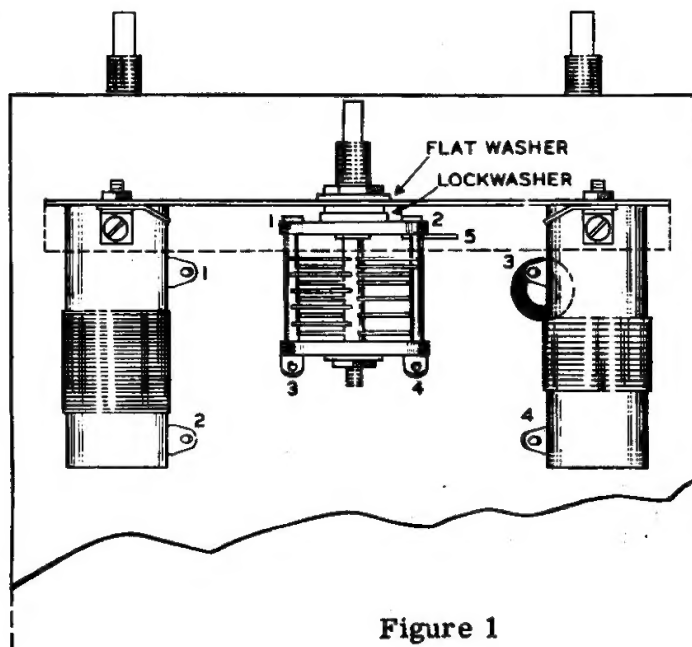

Figure 1
- X (✓) Mount the differential tuning capacitor to the front plate of the sub-chassis as shown in Figure 1 and Pictorial 1. Use a 3/8" lockwasher on the rear of the sub-chassis and a flat washer and 3/8 nut on the front. Position the capacitor so that the stator sections appear as shown in Figure 1 and the capacitor terminal lugs appear as shown in Pictorial 1.
- X (✓) Mount the 40 meter ceramic coil (one having the least number of turns) on the sub-chassis on the side of the capacitor having only two stator plates, as shown in Figure 1. Use assembly method shown in Figure 2. The coil terminals should be toward the capacitor. The position of this coil will hereafter be referred to as the right side as viewed from the rear. Use care in mounting the coils to prevent damage to the ceramic form.